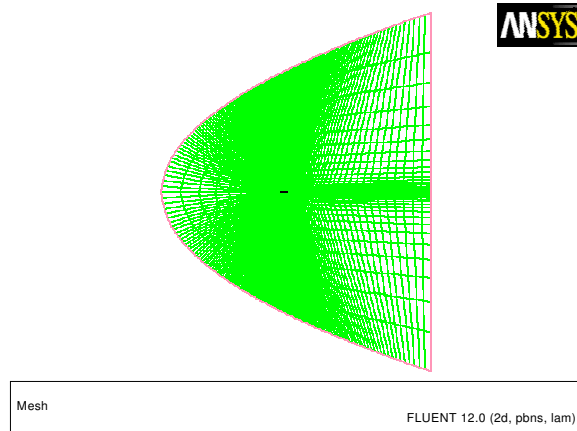

Figure 3.2: The Entire Mesh
3. Examine the mesh (Figures 3.2 and 3.3).